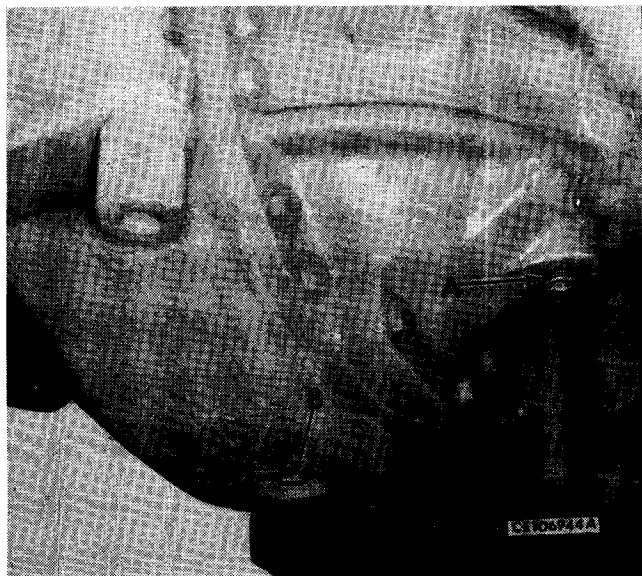

Fig. 14
2. Remove the filler and level plug (A, Fig. 14). If the lubricant level is low (below the level plug) add lubricant. Refer to "LUBRICANT SPECIFICATIONS AND CAPACITIES CHART" in this section for the grade of lubricant specified.
2. Remove the filler and level plug (A, Fig. 14) and the drain plug (B). Remove any metallic particles that may be present on the drain plug.